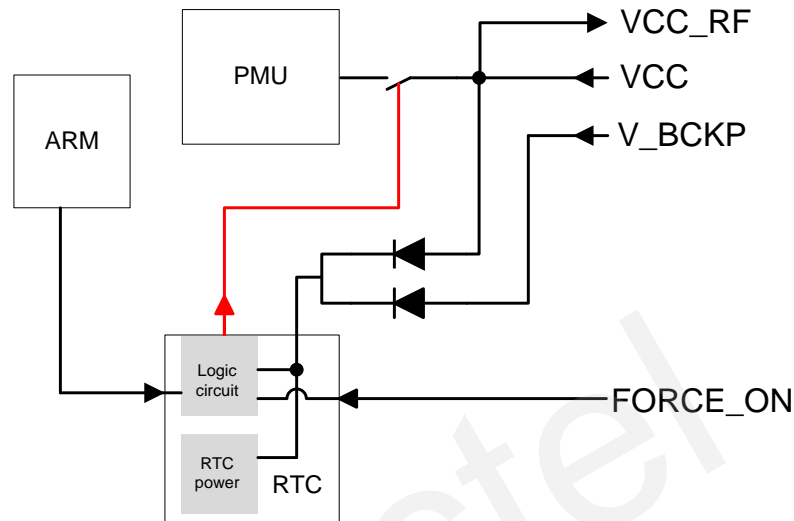

Figure 3: Internal Power Construction
- Send command “\$PMTK225,4\*2F” (the red line opens the switch in Figure 3) to enter into backup mode forever. The only way to wake up the module is pulling the FORCE\_ON high (the red line closes the switch in Figure 3).